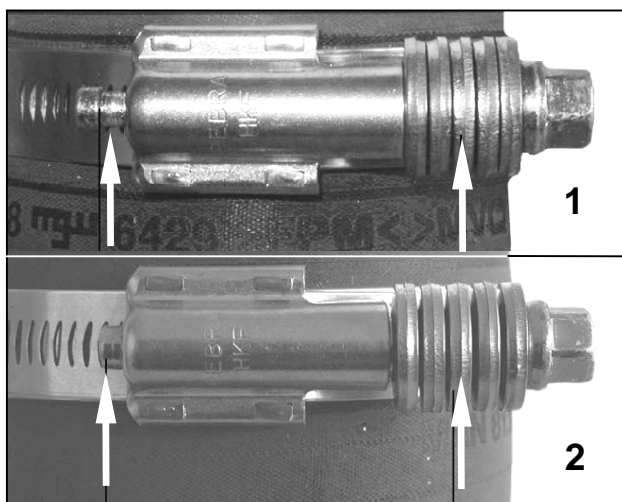

Figure 3: Constant torque hose clamp installation
- The Belleville spring washer stack should be nearly collapsed flat as shown in 1, Figure 3.